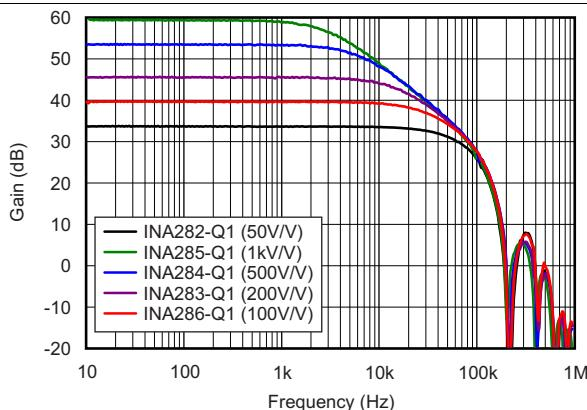

Figure 1. Gain vs Frequency
(7) See typical characteristic graph Figure 1 and the Effective Bandwidth section in the Applications Information.